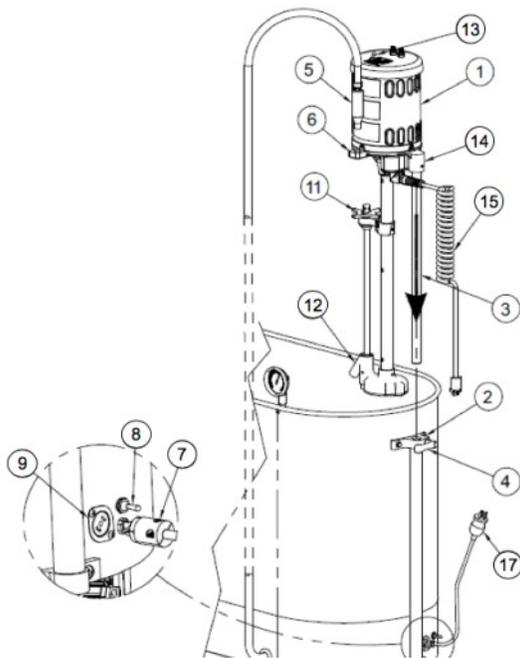
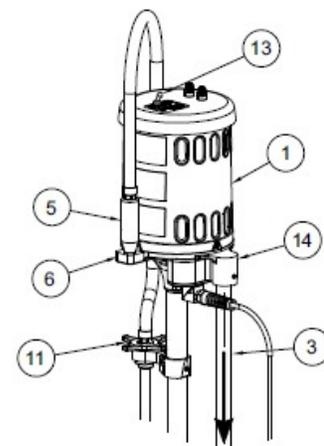

Figure 4: Detail of -SL-SDP Whirlpools
Figure 5: Detail of -SL model without -SDP
2. For -SL models (Figure 5) and -SL-SDP models (Figure 4): Place discharge nozzle (5) into storage socket (6). For -SL-SDP models only: water will flow through hose if discharge nozzle (5) is lower than water level.
3. Turn the pressure control valve handle (11) fully clockwise, then fully counterclockwise to completely lubricate the plunger assembly.
4. For -SL-SDP models only (Figure 4): Insert electrical cord twist-lock plug (7) into socket (9) and turn clockwise a quarter turn to lock in place. Ensure plug cover is firmly against the receptacle (9).
5. Turn the turbine power switch (13) off.
- a. Place discharge nozzle (5) into floor drain or sink.
- b. Turn the drain pump switch (18, Figure 4) on. When water stops discharging from the nozzle, turn the drain pump switch off.
- c. Some residual water will remain in the drain pump. To remove this water, lower the discharge nozzle (5) to the floor and clean with a towel or sponge.
- e. Place discharge nozzle (5) into socket (6). Note: water will flow through hose if discharge nozzle (5) is lower than water level.